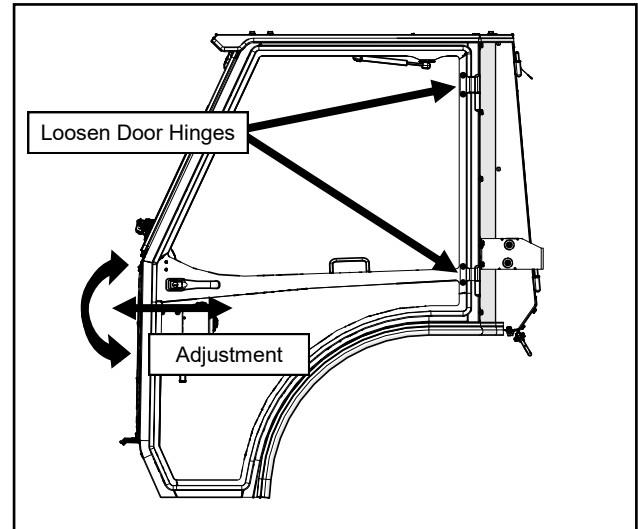

Fig. 23.2a (Door Hinge Adjustment)
- 23.2** Loosen the door hinges to allow for adjustment later. Hang the left door on the hinges. While lifting up and forward on the door handle, line up the door latch with the striker pin and carefully attempt to latch. You should be able to hear 2 clicks as you slowly engage the latch on the pin. If the latch is too far forward or back to latch on the pin, adjust as shown. See Figures 23.2a through c. Then retighten and latch.